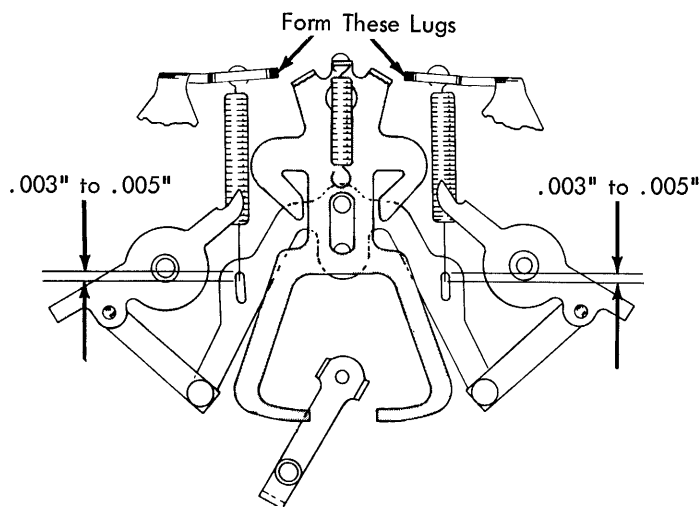

FIGURE 265. Centering Springs Adjustment
- 1. Centering Springs - With the ribbon reverse interposer centered, form the lugs of the ribbon feed plate for .003" to .005" clearance in the centering spring loops (Fig. 265).